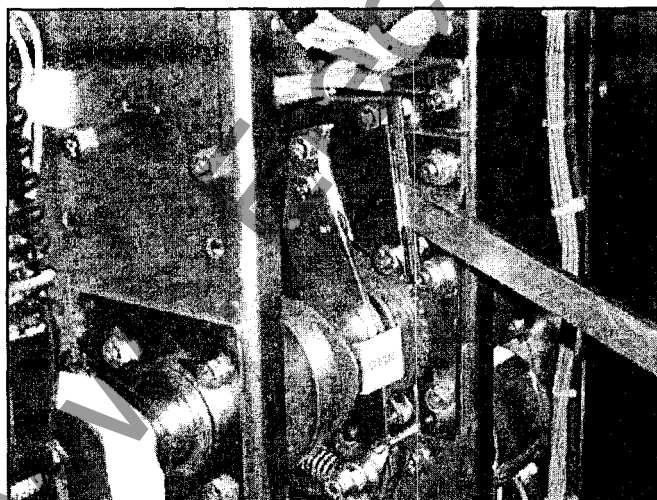

Figure 6-9 Manually Charging Closing Springs
**Step 7** - Charge the closing springs with the maintenance tool. Continue charging the closing springs until a "click" is heard and the status indicator shows "CHARGED" (Figure 6-9).